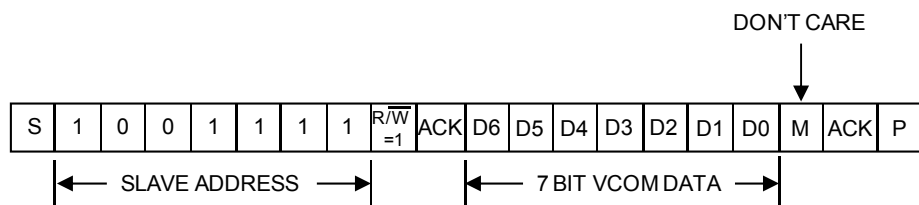

Figure 7. Read Operation to OTP or DAC Register
The master presets the address pointer by first sending the G1626's slave address with the R/W bit set to 1 after a START (S) condition. The G1626 acknowledges receipt of its slave address and the register address by pulling SDA low during the ninth SCL clock pulse. The G1626 transmits the contents of the DAC register as 7-bit data and the eighth bit, M, is don't care. Transmitted data is valid on the rising edge of the master-generated serial clock (SCL). A STOP condition is issued after reading the data byte. The master acknowledges receipt of the read byte during the acknowledge clock pulse. The final byte must be followed by a not acknowledge from the master and then a STOP condition. Figure 7 illustrates the frame format for reading data from the G1626.